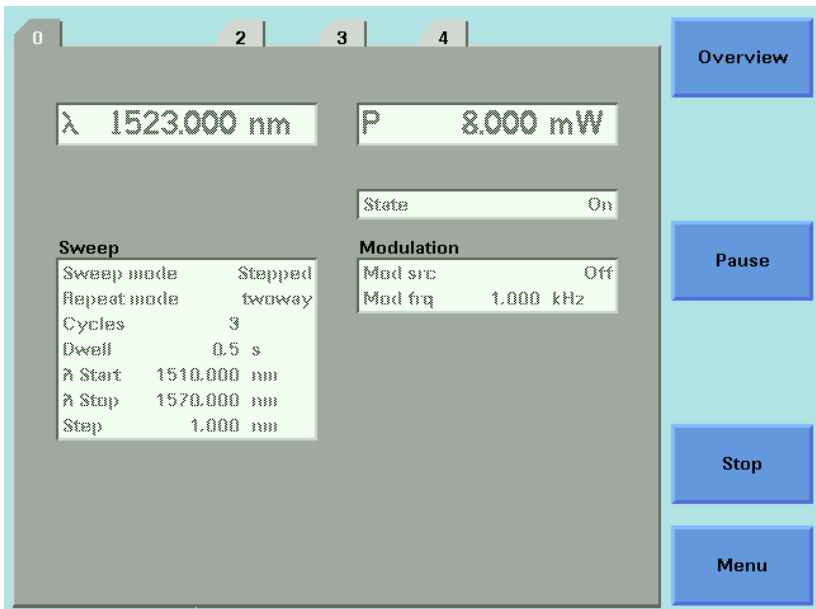

Figure 15 Executing a Stepped Sweep
- 17** Press [Run Swp] to start the sweep. The screen in Figure 15 appears.